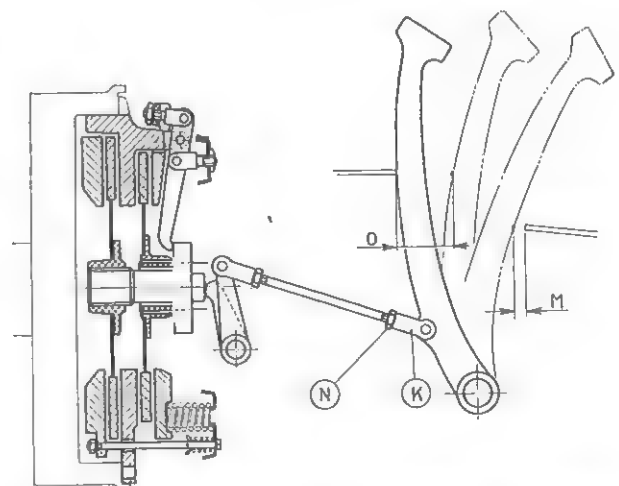

Fig. 40. - Distances O and M of pedal from foot-board and battery support, to be considered for clutch adjusting.
During operation the wear on the clutch disc linings causes the release levers (L) to reduce progressively their distance from the throwout collar contacting surface and consequently the length of the clutch pedal free travel is also reduced. The pedal free travel must therefore be periodically checked in order to bring it back if necessary to its proper setting of $7/16"$ to $9/16"$ (1 to 1,5 cm) (horizontal distance measured from the foot-board, fig. 40) by adjusting the pedal tie-rod length.